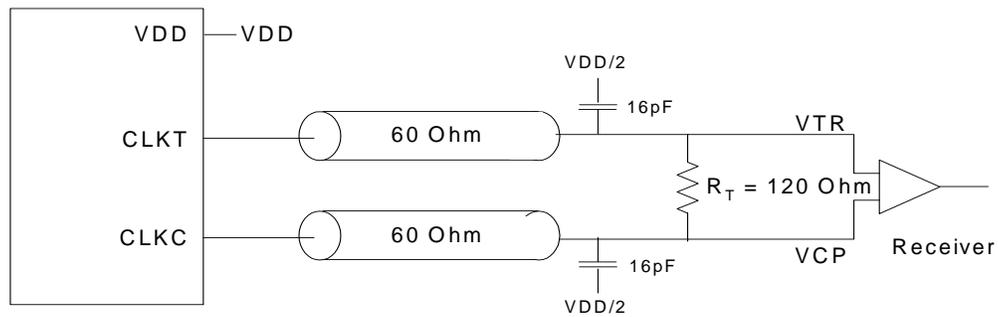

Figure 6. Differential Signal Using Direct Termination Resistor
- For load conditions see *Figure 6*.
- The value of V_{OC} is expected to be $|V_{TR} + V_{CP}|/2$. In case of each clock directly terminated by a 120Ω resistor. See *Figure 6*.
- All outputs switching loaded with 16 pF in 60Ω environment. See *Figure 6*.
- All differential input and output terminals are terminated with $120\Omega/16$ pF as shown in *Figure 6*.